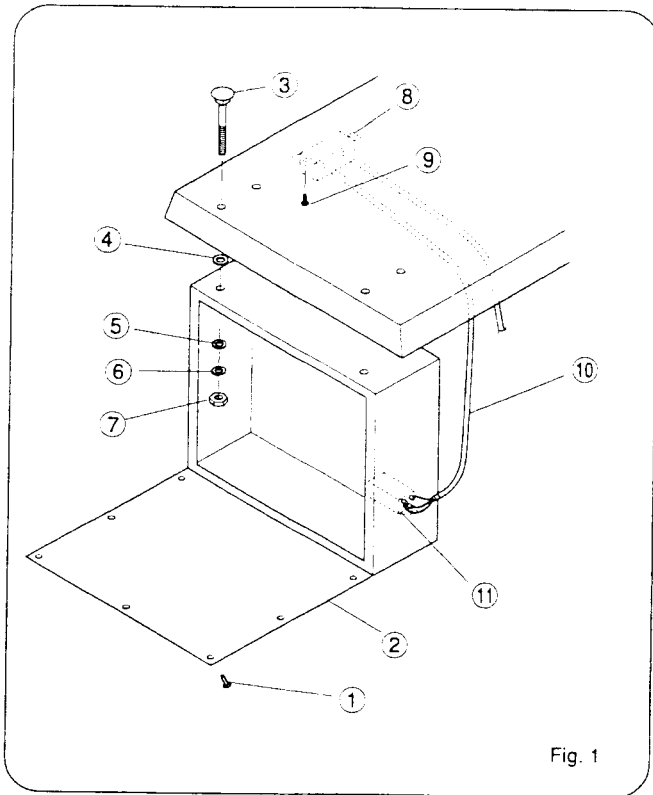

Fig. 1
- 5-3-1. Remove seven screws (1) and open cover (2) taking care not to drop the cover.
- 5-3-2. Fit bolts (3) into holes in table and fasten control box to underside of table with cushions (4), flat washers (5), spring washers (6) and nuts (7) as shown in Fig.1.
- 5-3-3. Fasten power switch (8) to table with two wood screws (9).